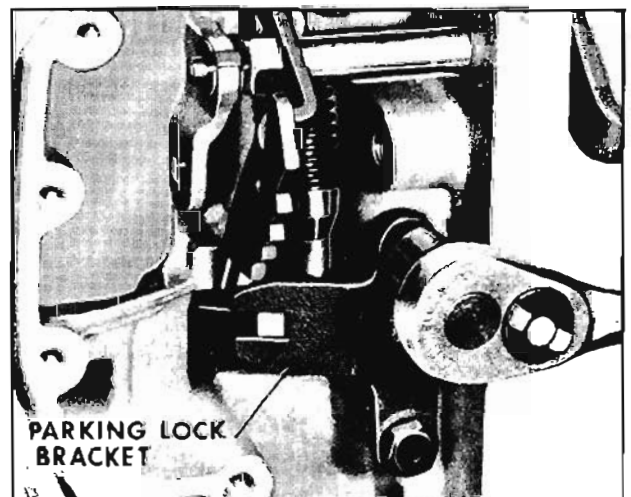

Fig. 6-297 Removing Parking Lock Bracket
1. Remove two parking lock bracket bolts with 1/2" socket. Remove parking lock bracket. (Fig. 6-297)